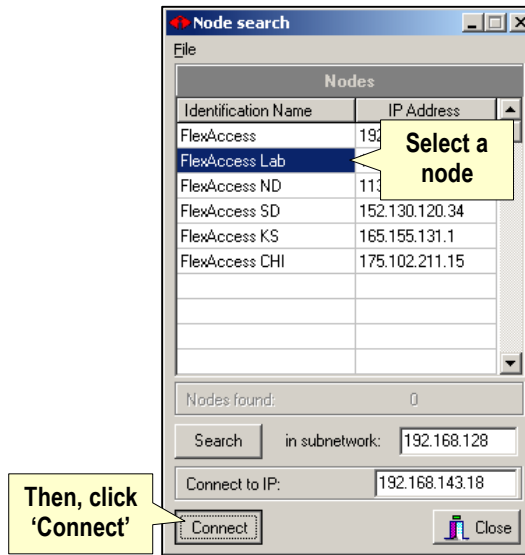

Figure 20 – Connect to a system (by Node List file)
- 3 Select the system node you wish to access and click **Connect** (Figure 20).